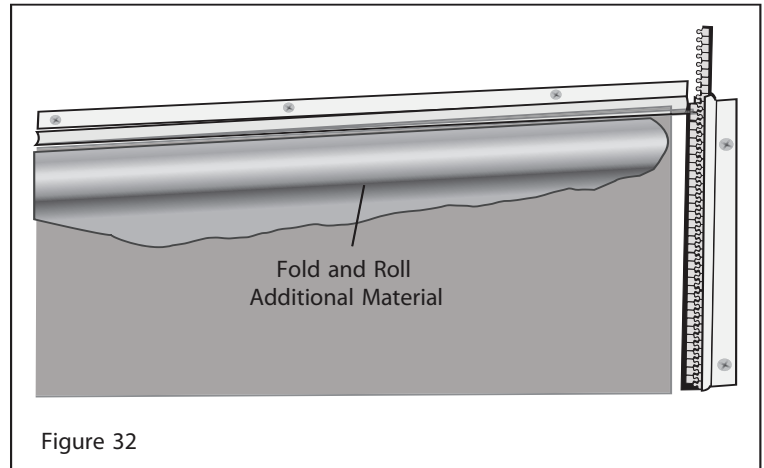

Figure 32
**STEP 48.** From outside the screen room, on both the left and right sides fold and roll the additional top panel screen material (See Figure 32) and secure with two clutch pins per side.